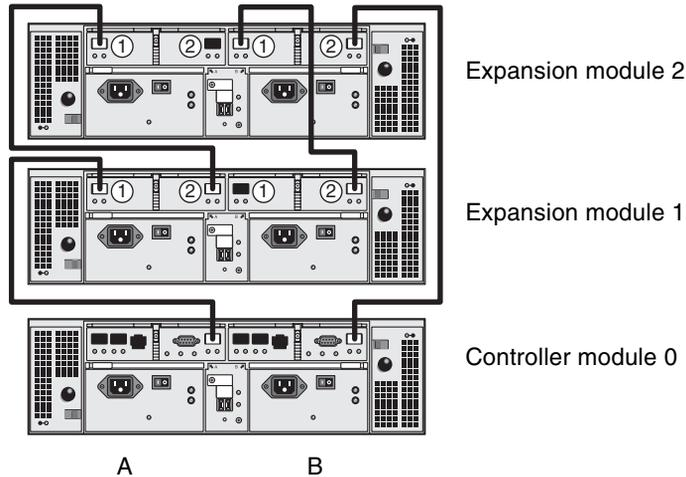

FIGURE 2-22 1x3 Array Configuration Cable Interconnection
3. Connect one FC cable between the A side expansion port of controller module 0 and the A side port 1 of expansion module 1 (FIGURE 2-22).
4. Connect one FC cable between the A side port 2 of expansion module 1 and the A side port 1 of expansion module 2 (FIGURE 2-22).
5. Connect one FC cable between the B side expansion port of controller module 0 and the B side port 2 of expansion module 2 (FIGURE 2-22).
6. Connect one FC cable between the B side port 1 of expansion module 2 and the B side port 2 of expansion module 1 (FIGURE 2-22).